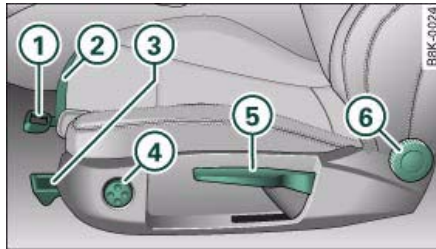

Fig. 75 Adjuster controls on driver's seat
- Lift the lever ① ⇒ fig. 75 and move the seat to the desired position.
- Then release the lever ① and move the seat further until the catch engages.
- Pull the lever ③ ⇒ fig. 75 up or down repeatedly (i.e. pump the lever).
- Press the front or rear part of the adjuster switch ④ to increase or decrease the curvature of the lumbar support as required. ▶
- Press the top or bottom part of the adjuster switch (4) to move the lumbar support upwards or downwards as required.
- Pull the lever (5) ⇒ page 73, fig. 75 up or down repeatedly (i.e. pump the lever).
- Turn the adjuster wheel (6) ⇒ page 73, fig. 75 to set the angle of the backrest as required.